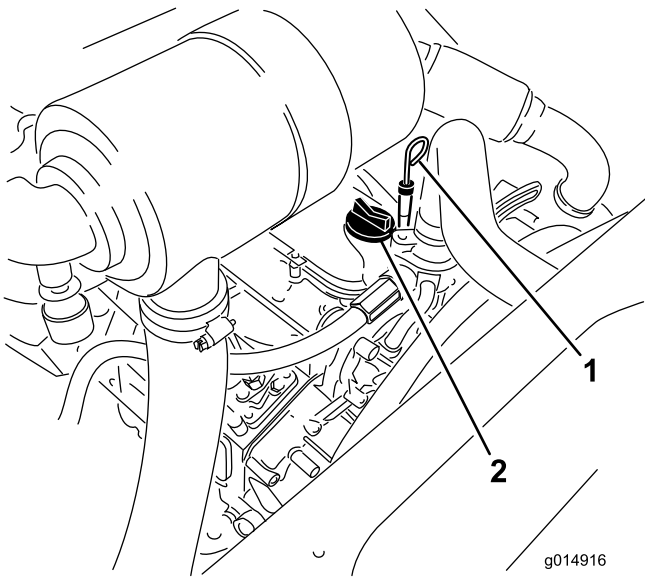

Figure 31
3. Remove the dipstick, wipe it clean, and install it (Figure 31).
5. If the oil level is below the FULL mark, remove the fill cap (Figure 31) and add oil until level reaches the FULL mark on dipstick. **Do not overfill.**